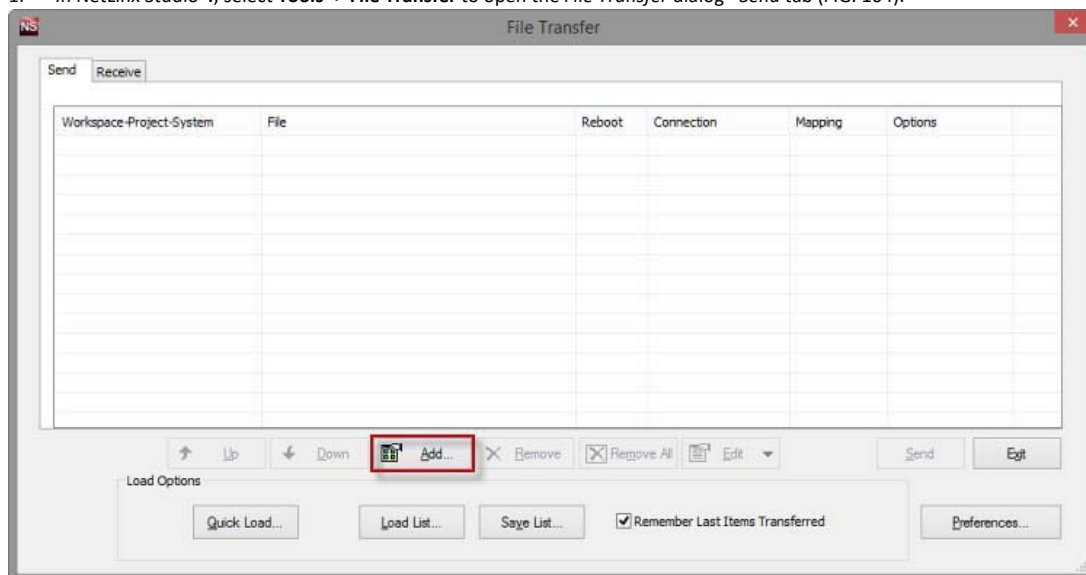

Fig. 164 NetLink Studio 4 - File Transfer dialog
1. In NetLink Studio 4, select **Tools -> File Transfer** to open the *File Transfer* dialog - *Send* tab (FIG. 164):